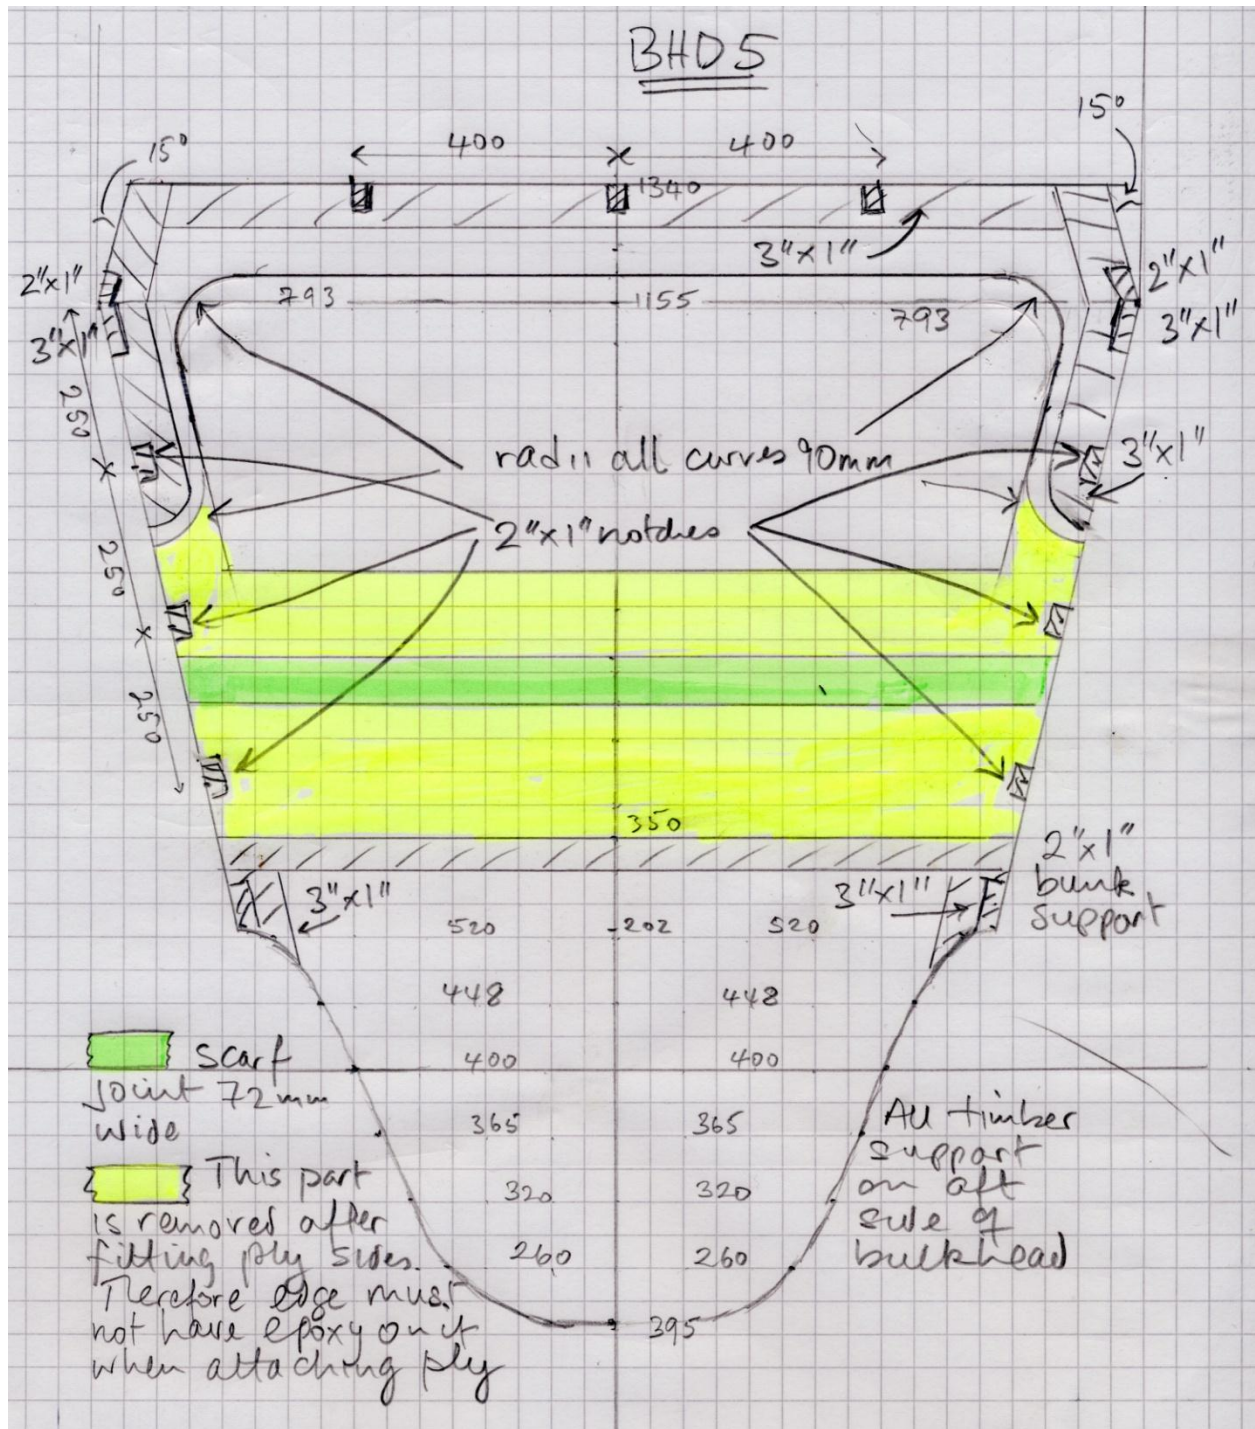

Figure 15: Bulkhead 5 Details
- Figure 15: Bulkhead 5 Details.
Originally this is a full bulkhead with small cut-out. After fitting the ply hull skin, a large part of this bulkhead is removed leaving just the deck support, from the bunk support down to the keel and a couple of radiussed lugs extending down the sides from the top – see Figure 15. Neither the stringers nor the plywood hull skin should be glued to the bit of the bulkhead being removed. This bulkhead is the same for both hulls, as in the Plans.